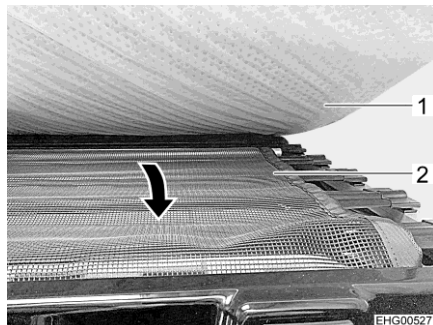

Fig. 57 Safety net
- Pull out the safety net (Fig. 57,2) from under the mattress (Fig. 57,1) and stretch it over the access orifice.